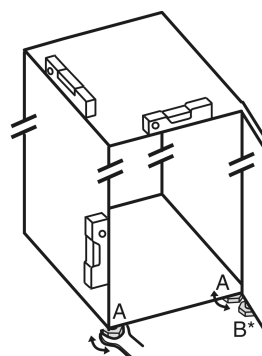

Fig. 4
- ▶ Unscrew the adjustable feet Fig. 4 (A) using the enclosed open-end spanner and a spirit level until the appliance is firmly aligned and level.
► Unscrew the adjustable foot *Fig. 4 (B)* on the swap bearing block with the enclosed open-end spanner until it rests on the floor.
► Turn the adjustable foot *Fig. 4 (B)* 90° further.